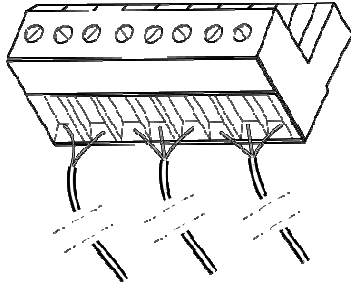

Figure 7 Connecting the input cables to the input terminal
2. Strip 7 mm of the input cable and connect it to the input terminal, and then tighten the screws to secure the wires, as shown in Figure 7. See Table 3 for port descriptions.